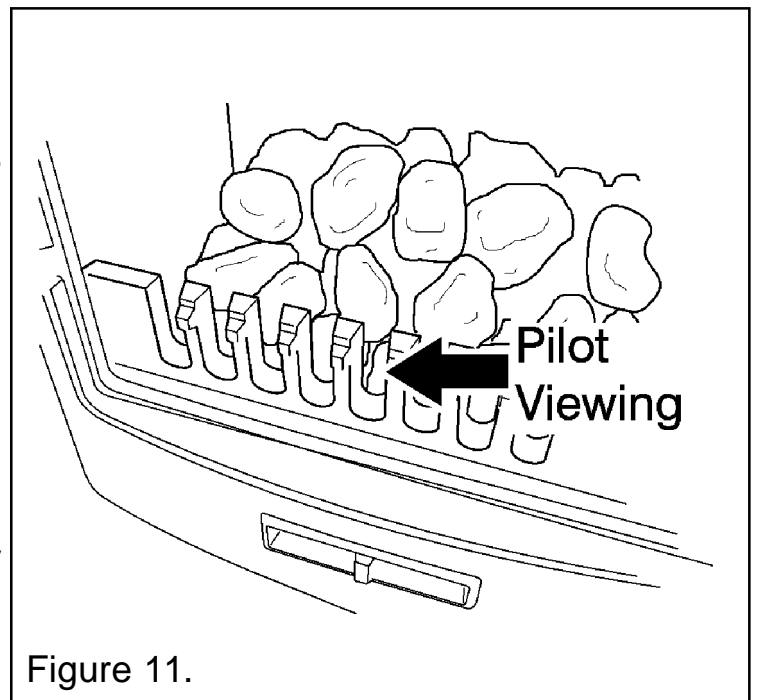

Figure 11.
3. Turn the control knob clockwise to the 'Off' position. Repeat this operation until a flame appears at the pilot. The pilot can be seen by looking through the fifth space from the left on the fire bar, the flame being visible between the gap in the fuel effect (See figure 11). There may be a delay before the pilot lights due to air being purged from the system. When a flame appears at the pilot keep the control knob depressed and hold the pilot ignition position for five seconds. When the control knob is released the pilot flame should remain lit.